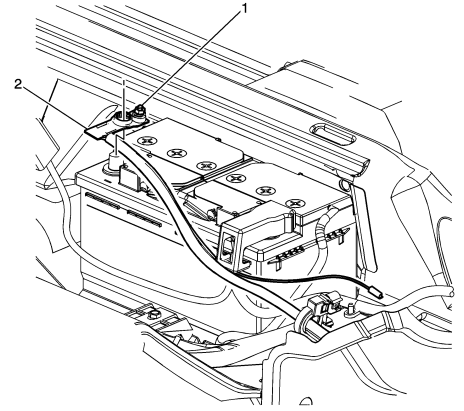

Fig. 2 Battery ground cable disconnection
5. Loosen battery ground cable terminal nut (1), **Fig. 2**.
6. Connect battery ground cable (2) to battery, **Fig. 2**. **Torque** battery cable terminal nut to 11 ft. lbs.